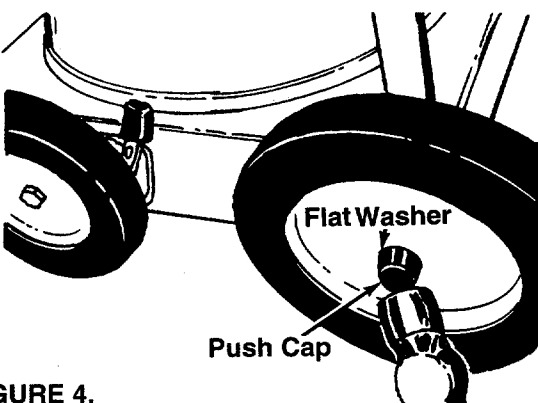

FIGURE 4.
2. Place rear wheels in position on the shafts, then another flat washer. Secure with black push cap by placing the push cap in position and tapping on with hammer or rubber mallet. See figure 4.
← on with hammer or rubber mallet. See figure 4.